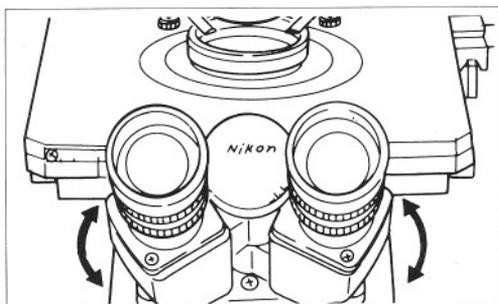

Fig. 20
- 3) Bring the specimen image into focus, using the 4 $\times$  objective. Adjust the interpupillary distance, as shown in Fig. 20, so that the right-and left eye view-fields come together into coincidence.